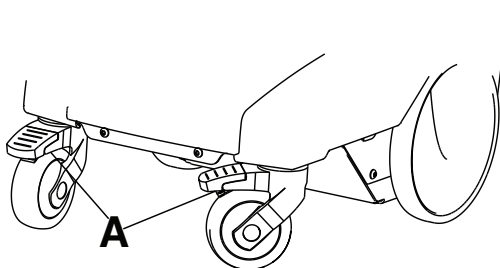

Figure 7 – Wheel locks
To apply the wheel locks, push down (A) (Figure 7) with your foot.
To release the wheel locks, pull up (A) (Figure 7) with your foot.